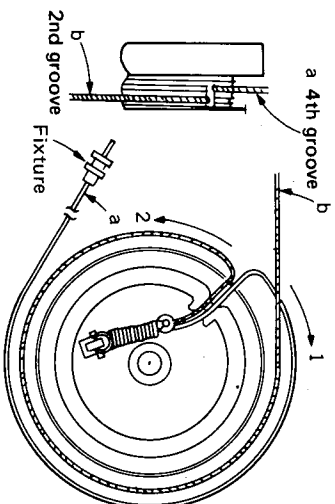

Fig. 19
4. Turn over the arm drive wheel, and set the rope in the order of 1 ~ 2. (Fig. 19)